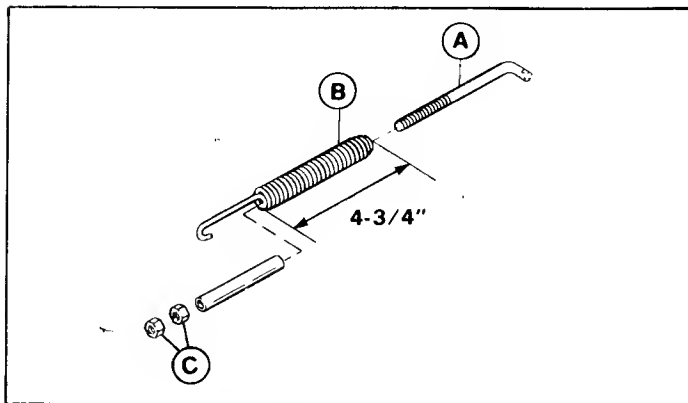

Figure 30. PTO, 36" Mower
2. When the mower PTO lever is engaged, the spring length should measure 4-3/4 inch as shown in figure 30 or 31, next page. To adjust the 36" mower, go to step 3. To adjust 42" mower, go to step 4.